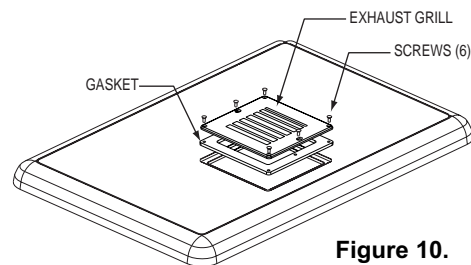

Figure 10.
1. Remove the six (6) retaining screws from the old exhaust grill and discard the screws, gasket, and exhaust grill as shown in Figure 10.